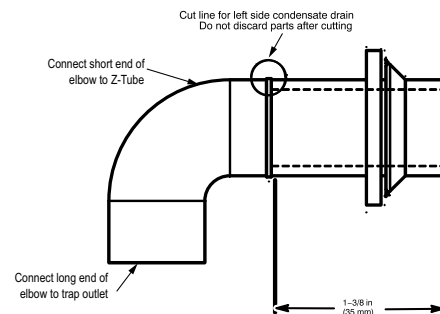

Fig. 17 – Modify Rubber Drain Elbow
- The Z-pipe is connected to the condensate trap and the outside of the furnace by modifying the formed rubber drain elbow as shown in Fig. 17.
- Remove the formed grommet from the rubber drain elbow by cutting the elbow along the vertical line located about 1-3/8 in. (35 mm) away from the formed grommet. See Fig. 17. **DO NOT DISCARD THE FORMED GROMMET OR THE RUBBER ELBOW.** Both of these pieces will be used.
TIP FROM CONTRACTORS: When installing the furnace horizontally, use the entire drain elbow (that is, do **NOT** cut as shown in Fig. 17 to connect the trap to the drain line. This helps to prevent bumps and shocks to the drain line from damaging the furnace drain trap. Avoid misalignment of the drain pipe which may cause kinks in the elbow.